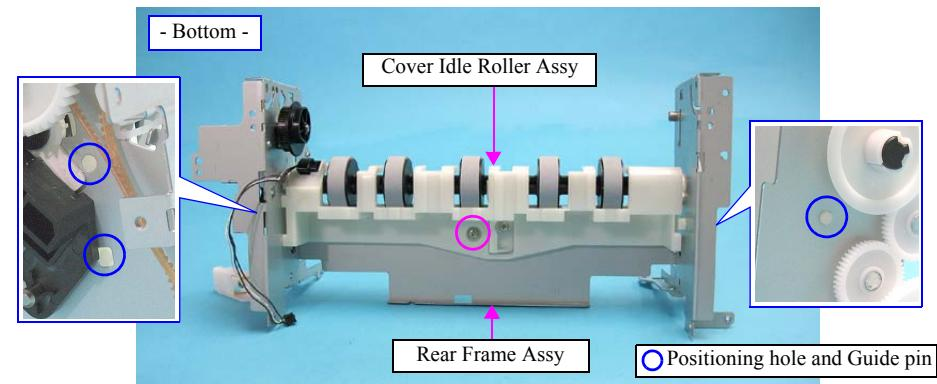

Figure 4-205. Removing the Cover Idle Roller Assy
- When installing the Cover Idle Roller Assy, insert its three guide pins into the holes of the Rear Frame Assy as shown in Figure 4-205.